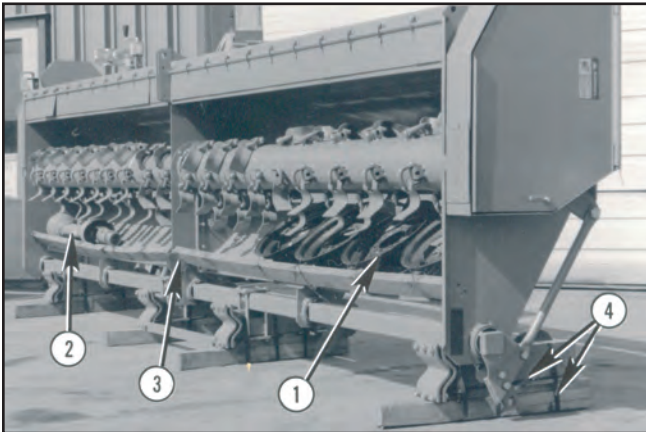

FIGURE 102
Remove and discard all shipping dunnage associated with wheels (1) and PTO (2). See Figure 102. Do not forget to remove and discard 2 metal dunnage brackets (3). Pull out and temporarily set aside wheels and PTO. Cut bottom skids dunnage bands and remove 3/8” lag screws, along with, dunnage “U” retainers at (4).